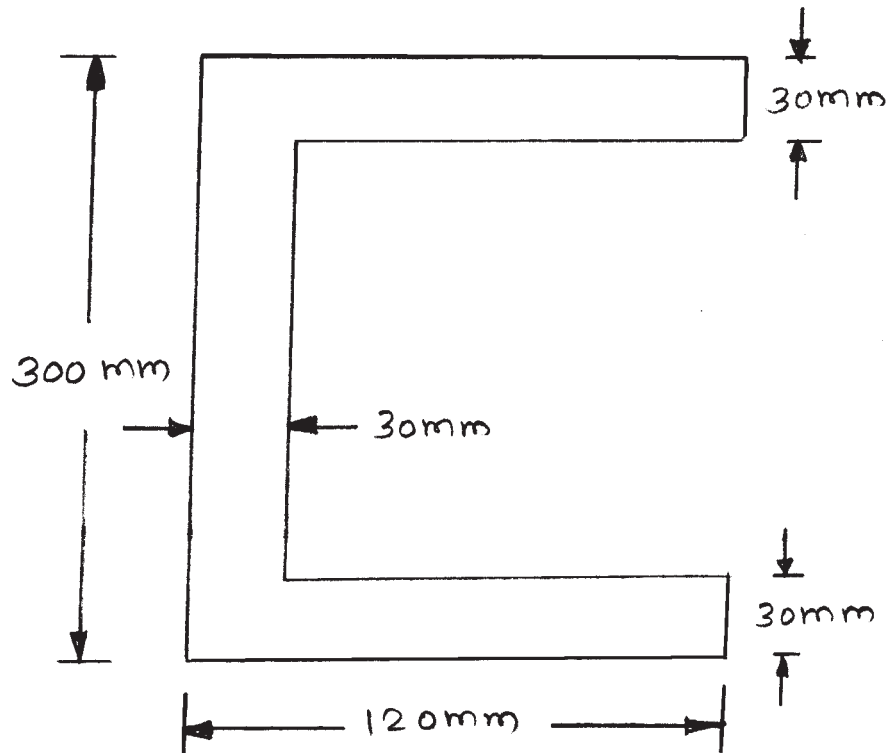

Fig. No. 8
a) Find the centroid for a channel section as shown in Fig. No. 8.